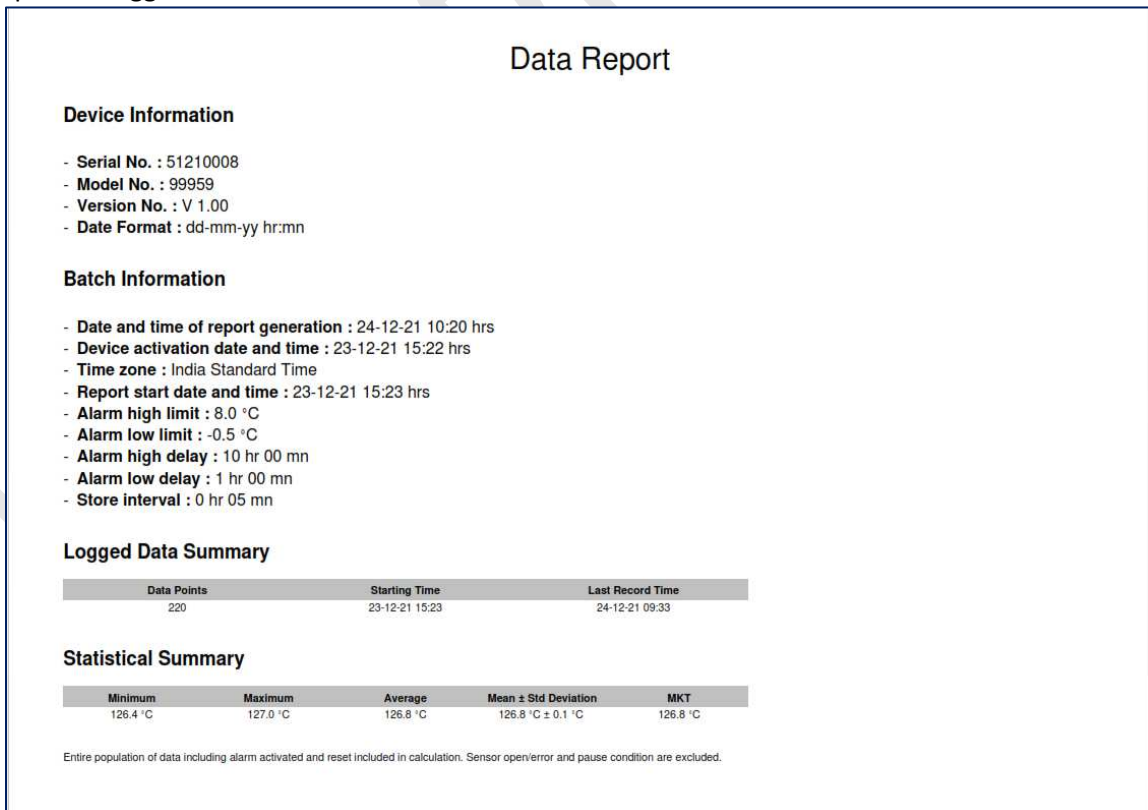
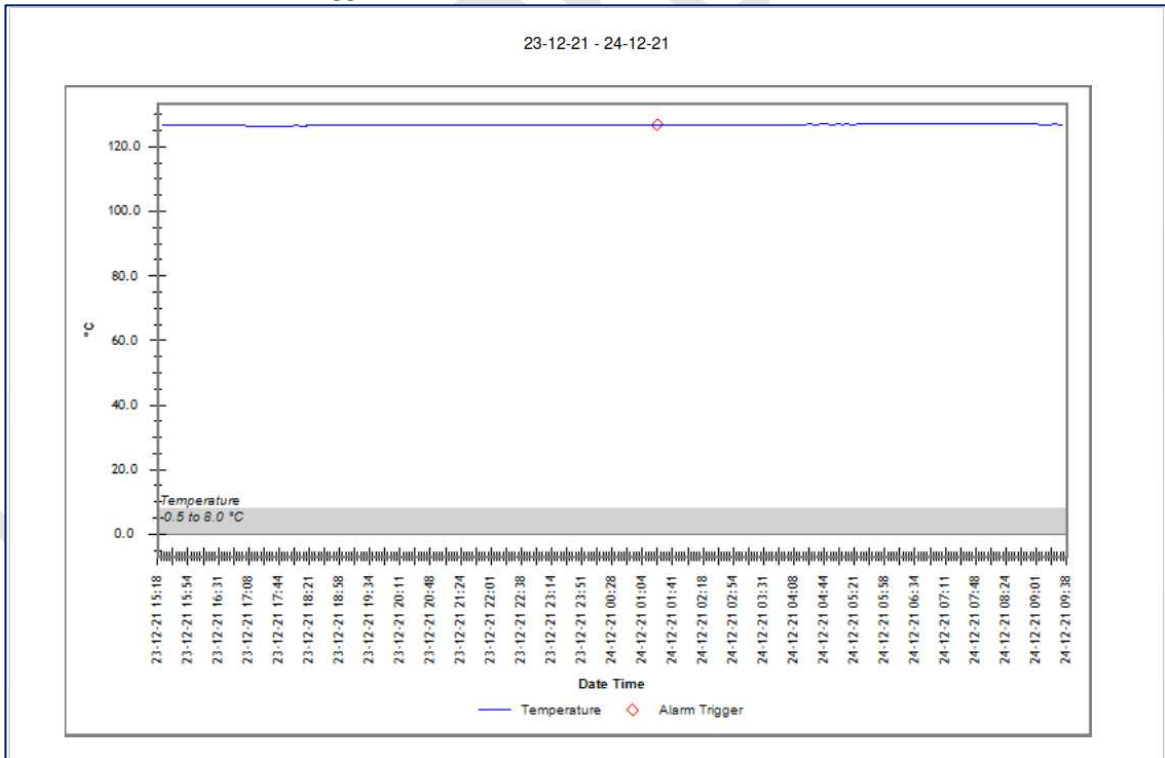

Figure 25 Sample PDF report part -1
Figure 27 Sample PDF report part -3
➤ Sample PDF file generated from LM-XS^{Pro} ULT Data logger for 3 days recorded data is shown in figure 25, figure 26 and figure 27. This report consists of following data:
- The gray band in graph shows area inside alarm low and high limit. Indications for alarm trigger, alarm restore, sensor connection error are specified in graph labels as shown in figure 27.